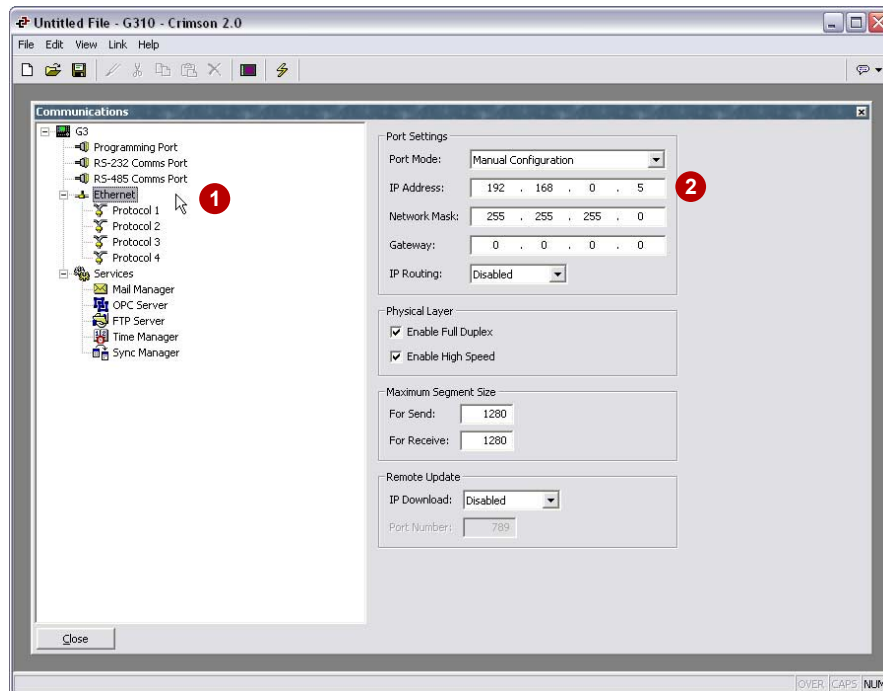

Figure 5
2. Assign an IP address to the G310. In this example, we chose 192.168.0.5 (Figure 5). The Gateway Pro default IP address is 192.168.0.1.